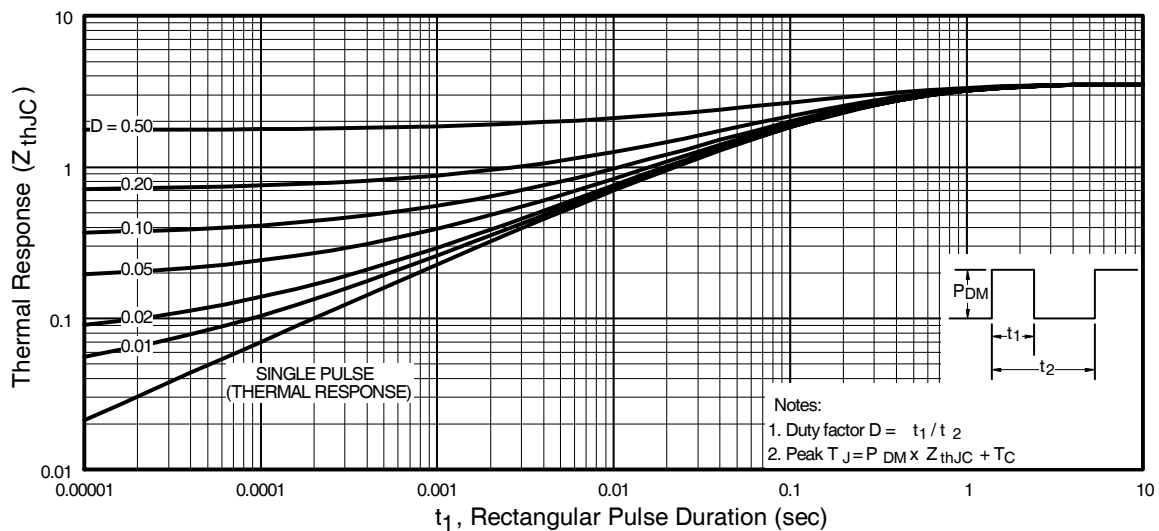

Fig 11. Maximum Effective Transient Thermal Impedance, Junction-to-Case
- ① Repetitive rating; pulse width limited by max. junction temperature. (See fig. 11)
- ② Starting $T_J = 25^\circ\text{C}$, $L = 64\mu H$